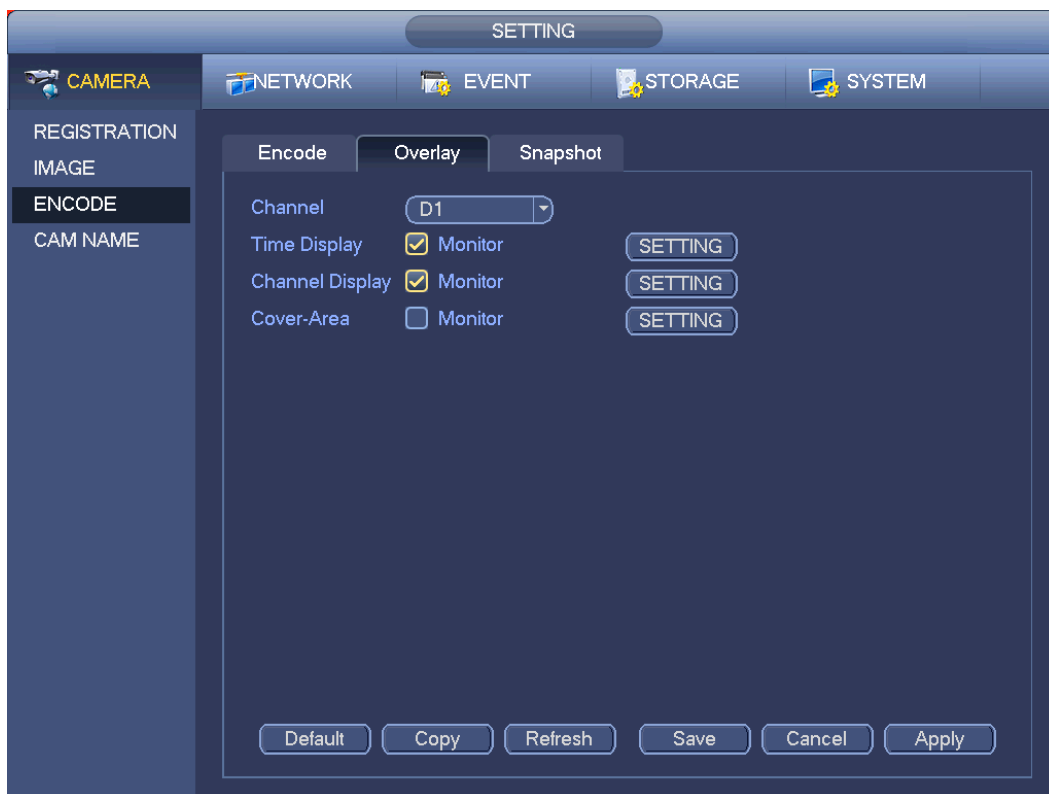

Figure 4-48
- Copy: After you complete the setup, you can click Copy button to copy current setup to other channel(s). You can see an interface is shown as in Figure 4-50. You can see current channel number is grey. Please check the number to select the channel or you can check the box ALL. Please click the OK button in Figure 4-50 and Figure 4-48 respectively to complete the setup. Please note, once you check the All box, you set same encode setup for all channels. Audio/video enable box, overlay button and the copy button is shield.
Click overlay button, you can see an interface is shown in Figure 4-48.